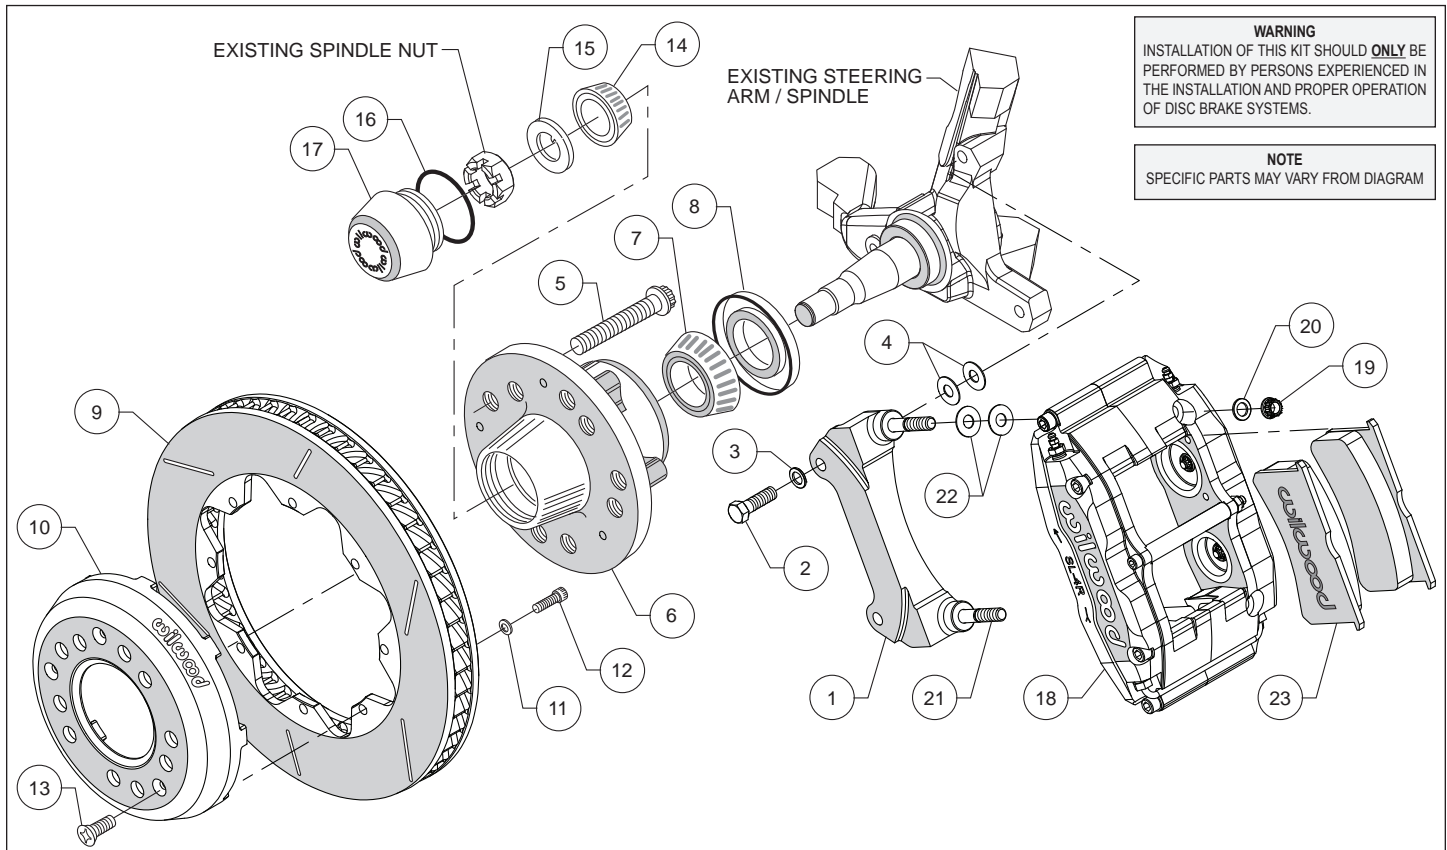
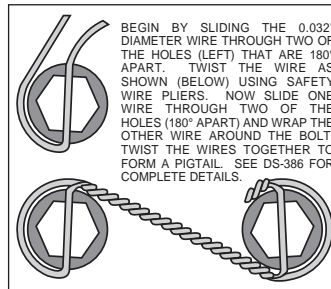

Figure 2. Typical Installation Configuration
Figure 4. Safety Wire Diagram
Assembly Instructions (numbers in parenthesis refer to the parts list and Figure 2 on the preceding page):
- The caliper mount bracket (1) should initially be installed with clean, dry threads on the mounting bolts. Orient the bracket as shown in Figure 2 and Photo 1, and install using bolts (2) and washers (3). Initially place two .035" thick shims (4) on each bolt between the bracket and upright, Figure 2. Temporarily tighten the mounting bolts. **NOTE:** The bracket must fit squarely against the mounting points on the spindle. Inspect for interference from casting irregularities, machining ridges, burrs, etc. Later, after the caliper alignment has been checked, the mount bolts will be secured using red Loctite® 271.
- Orient the rotor (9) and the hat (10) as shown in Figure 2 and Photo 4. Attach rotor to hat using bolts (12) and washers (11). Using an alternating sequence, apply red *Loctite*® 271 to the threads, and torque to 25 ft-lbs. Safety wire bolts using standard 0.032 inch diameter stainless steel safety wire as shown in Figure 4.
- **NOTE:** This kit contains distinct right and left hand calipers that must be mounted in a specific direction, as described below. Lubricate the caliper mounting studs (21) with lightweight oil. Initially place two .035" thick shims (22) on each stud between the caliper and the bracket, as shown in Figure 2 and Photo 7. With the bleed screws pointing up, mount the caliper (18) onto the bracket (1) using lock nuts (19) and washers (20), Figure 2. Ensure that the caliper is mounted so the largest pistons are at the rotor exit end of the caliper, in relation to the direction of rotor rotation. Temporarily tighten the lock nuts and view the rotor through the top opening of the caliper. The rotor should be centered in the caliper, Photo 8. If not, adjust by adding or subtracting shims (4) between the bracket and the spindle. Always use the same amount of shims on each of the two mounting bolts. Once the caliper alignment is correct, remove the bracket mounting bolts one at a time, apply red *Loctite*® 271 to the threads, and torque to 40 ft-lb.